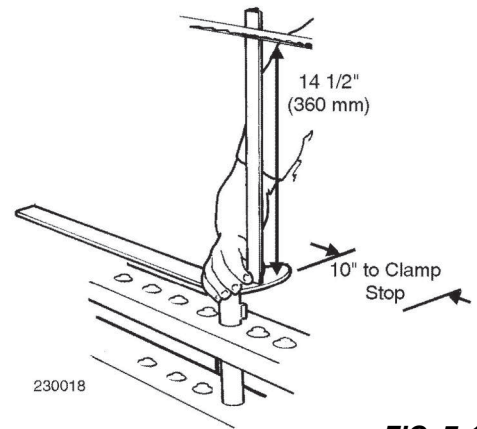

FIG. 7-18
1. Install the log clamp at its lowest setting in a hole where the clamp is positioned 10" (254mm) from the clamp stop (fourth hole from stop). **See Fig. 7-18.**